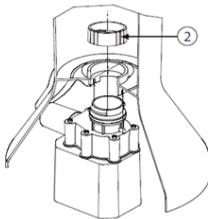

Fig. 2
2. First remove the filtration top cover (4) and the filtration insert (10) from the filtration assembly. Lubricate the O-ring (20) on the pump inlet branch with grease. Hold the filtration case (3) carefully and insert the pump body (1) so the inlet hole of the pump reaches the hole on the side of the base. Insert the pump so it rests on the bottom and the two lugs on the pump fit into two slots in the bottom of the filtration case (3). Reach inside the filtration case and fit the pump's nut (2) on the inlet hole of the pump's inlet branch. Turn the nut (2) clockwise to tighten it. See **Fig. 2**. Place the filtration insert (10), the cover (4) and turn it to lock it in the filter body (3).